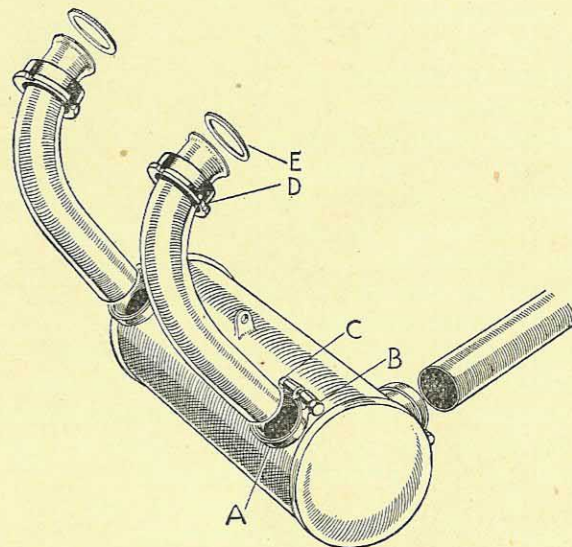

FIG. 49.—EXHAUST ASSEMBLY.
Release the three nuts (C, Fig. 49), and remove pins (B) holding the silencer clips (A), two from cylinder to exhaust chamber, and one from exhaust chamber to tail pipe. Remove